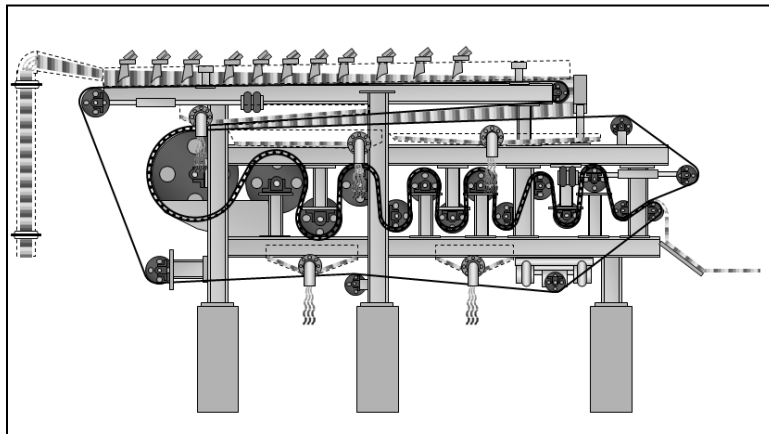

Figure 4-12. Belt filter press.
- ❑ **Filter Press Dewatering.** A filter press is a series of vertical plates, belts, or frames. The devices are pressed together as residuals are introduced under pressure (Figure 4-12). Water passes through the plates, belts, or frames and is returned to the treatment plant.